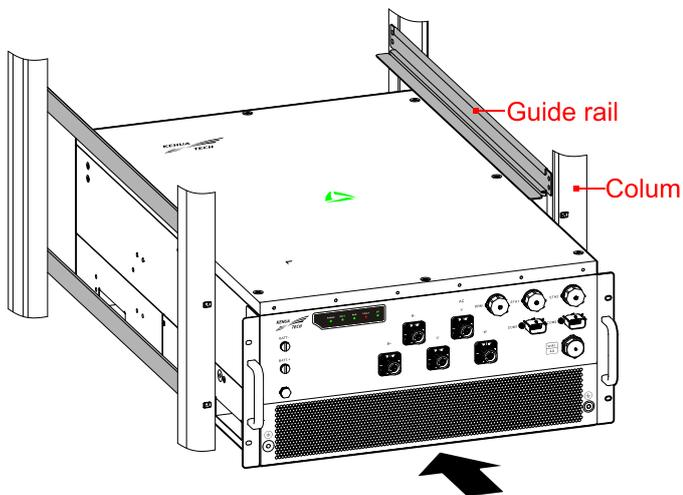

Figure3-9 Push the PCS into the cabinet
Step 2 Push the PCS along the guide rail into the cabinet, as shown in Figure3-9.